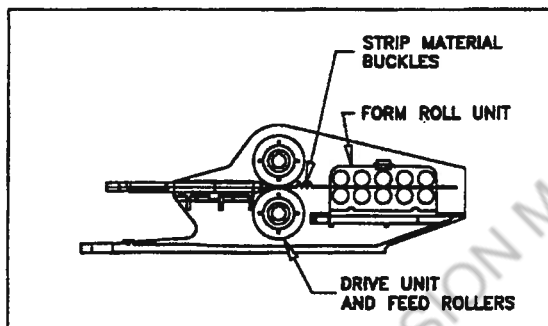

Fig. 123 - Strip Material Buckling Between Form Roll Unit and Drive Unit and Feed Rollers
8.9.4 When the strip material buckles between the form roll unit and the drive unit and feed rollers (Fig. 123)